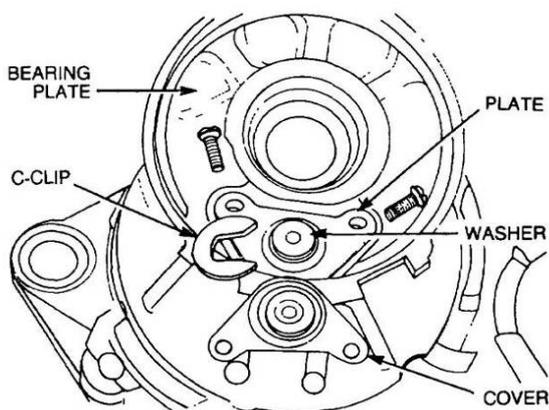

Figure 302 Removal of the Bearing Plate
- h.** Remove the single bolt securing the bearing plate to the housing and remove the two screws securing the cover to the plate (Figure 302). Remove the cover and C-clip from the end of the clutch then remove the washer and plate. Withdraw the bearing plate from the housing and remove the washers from the shaft.
- h. Fit the plate and washer on the bearing plate (Figure 302) and secure them with the C-clip. Install the cover and secure it with the two screws.